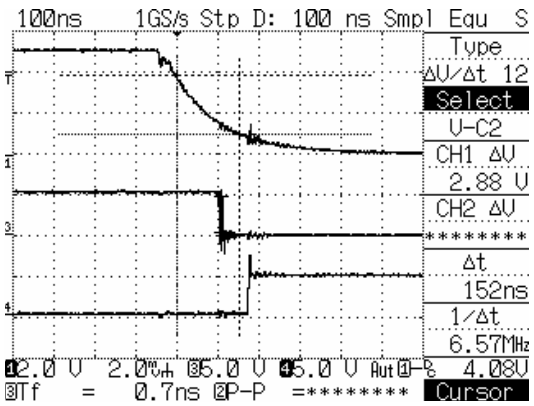

Fig. 12
Step 7: Timing adjustment. The Timing adjustment should be performed under light load circumstance. A variable resistor, 0~100K Ω , is connected from Timing pin to VDD and adjust the variable resistor. Changing the resistor value will change dv/dt slope. This resistor value normally is from 8Kohm to 20Kohm. The typical relation between resistor value and the Delta T is shown in Figure 12.